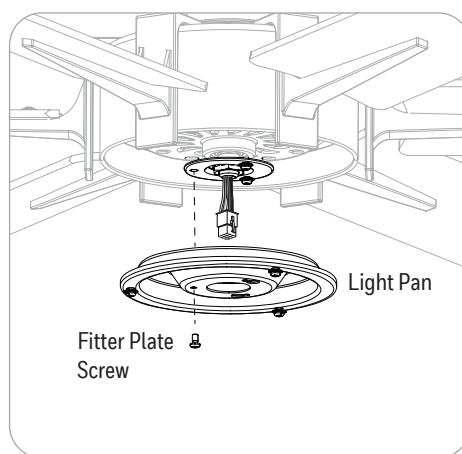

Figure 4.5
5. Remove one of the three fitter plate screws preassembled to the fitter plate and loosen the other two but do not remove. Feed the 9-pin connector through center hole in light pan. Align the slotted holes in the light pan with the loosened screws in the fitter plate. Turn light kit clockwise and replace the previously removed fitter plate screw. Tighten all screws (Figure 4.5).